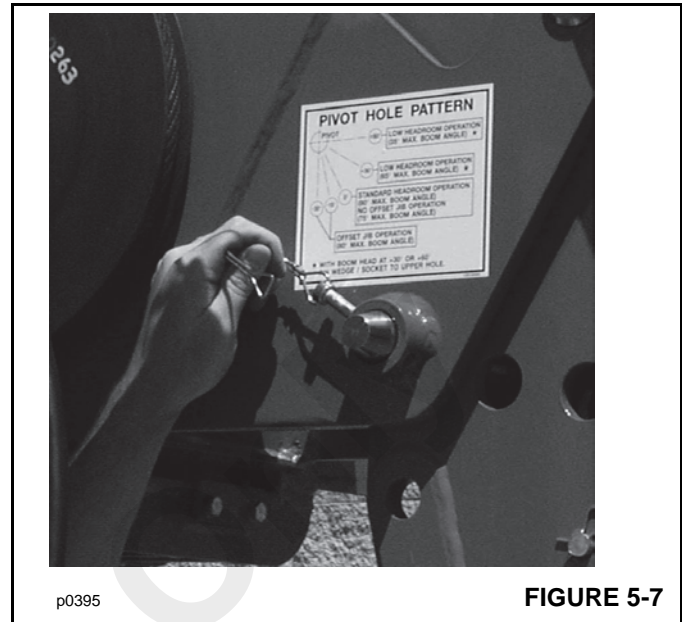

FIGURE 5-7
4. Remove the lynch pin (Figure 5-7) from the pivot lock pin.